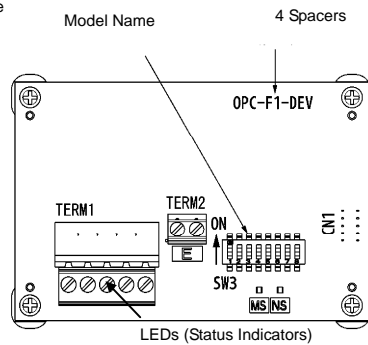

Figure 1 Back of the Card
- (1) A DeviceNet Card is contained in the package.
- (2) The DeviceNet Card has not been damaged during transportation--no defective electronic devices, dents, or warp.
- (3) The model name "OPC-F1-DEV" is printed on the DeviceNet Card. (See Figure 1.)